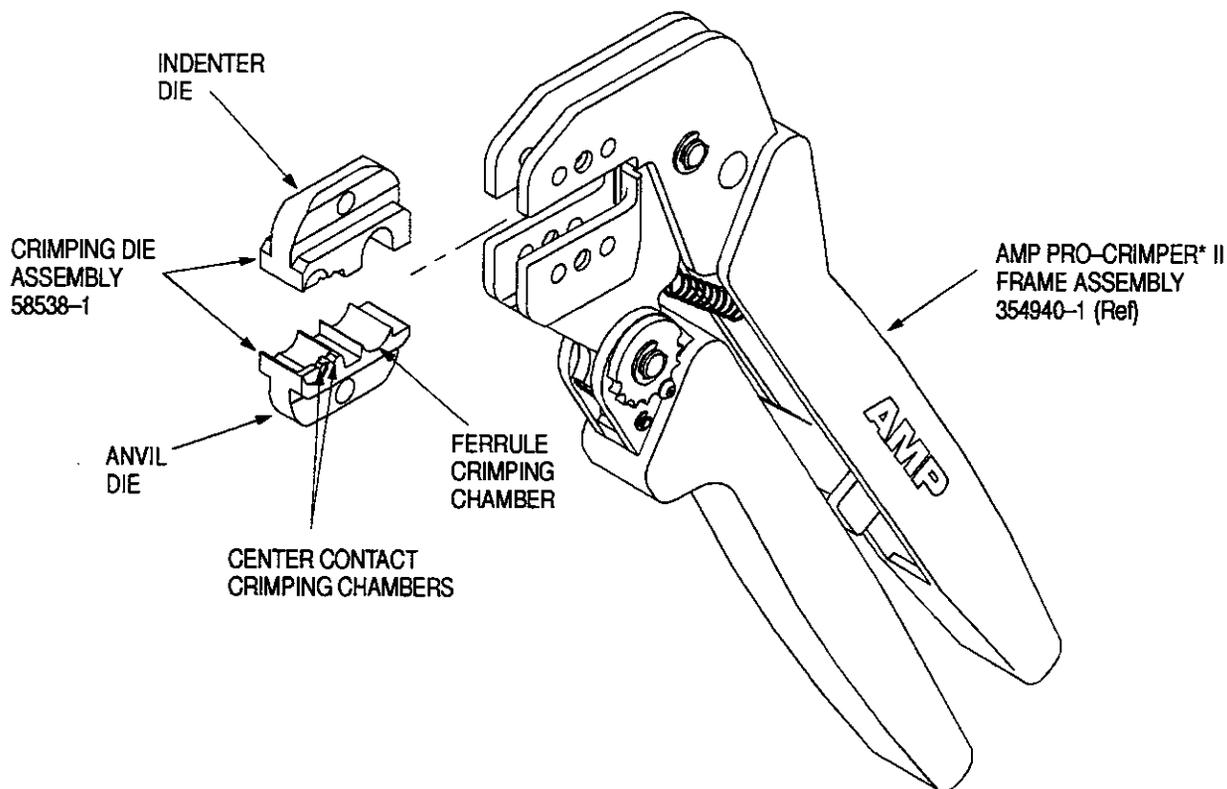

Figure 1
chambers. The larger crimping chamber crimps the ferrule of the connector onto the coaxial cable, and the two smaller crimping chambers crimp the center contact onto the center conductor of the coaxial cable. Each die is held in the tool jaws by a single screw. See Figure 1.
3. DIE INSTALLATION (Figure 1)